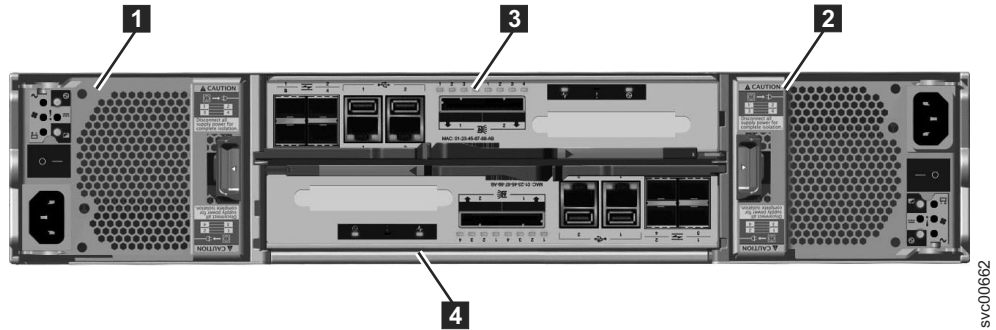

Figure 3. Rear view of a model 2076-112 or a model 2076-124 control enclosure
Figure 3 on page 5 shows the rear view of a control enclosure and identifies the location of the power supply units and the canisters.
- Two canisters are housed in the middle of the enclosure. Each canister is known as a node canister. The upper canister, as shown in Figure 3, is canister **3**, and the lower canister is canister **4**. Canister **3** is top side up, and canister **4** is inverted, or top side down.